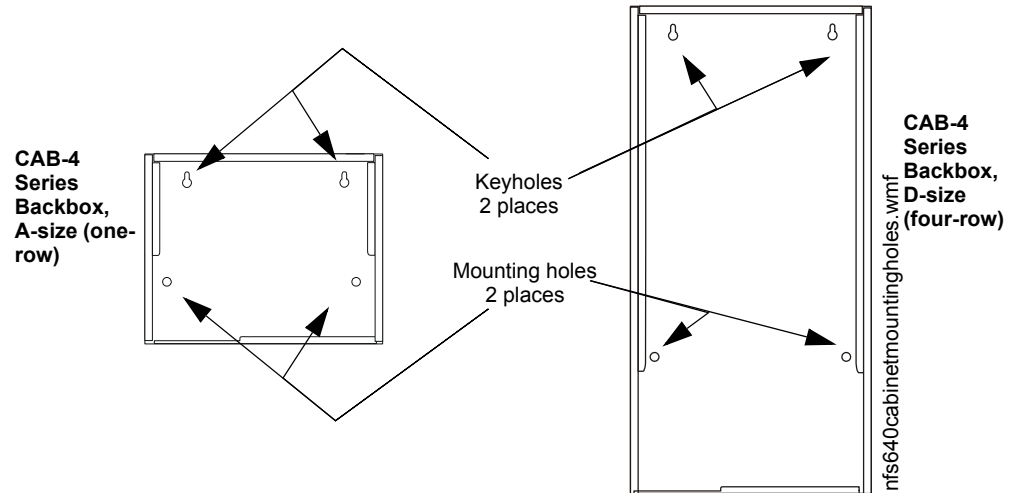

Figure 3.1 Mounting Holes of a Backbox
- Use the four holes in the back surface of the backbox to provide secure mounting. (See Figure 3.1.)